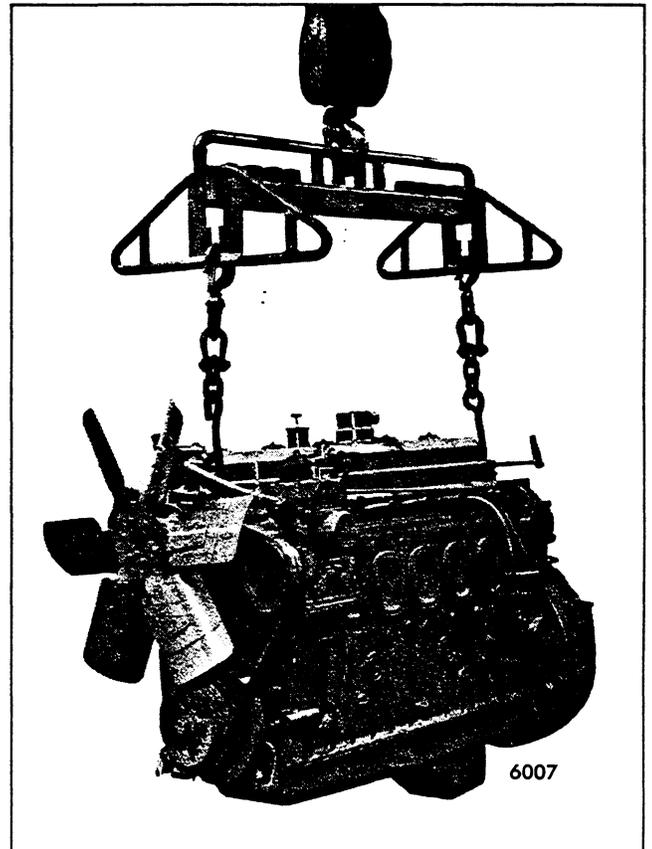

Fig. 6 - Lifting Engine with Spreader and Sling
15. Use a spreader bar with a suitable sling and adequate chain hoist to lift the engine from its base (Fig. 6). To prevent bending of the engine lifter brackets the lifting device should be adjusted so the lifting hooks are vertical. To ensure proper weight distribution, all engine lifter brackets should be used to lift the engine.